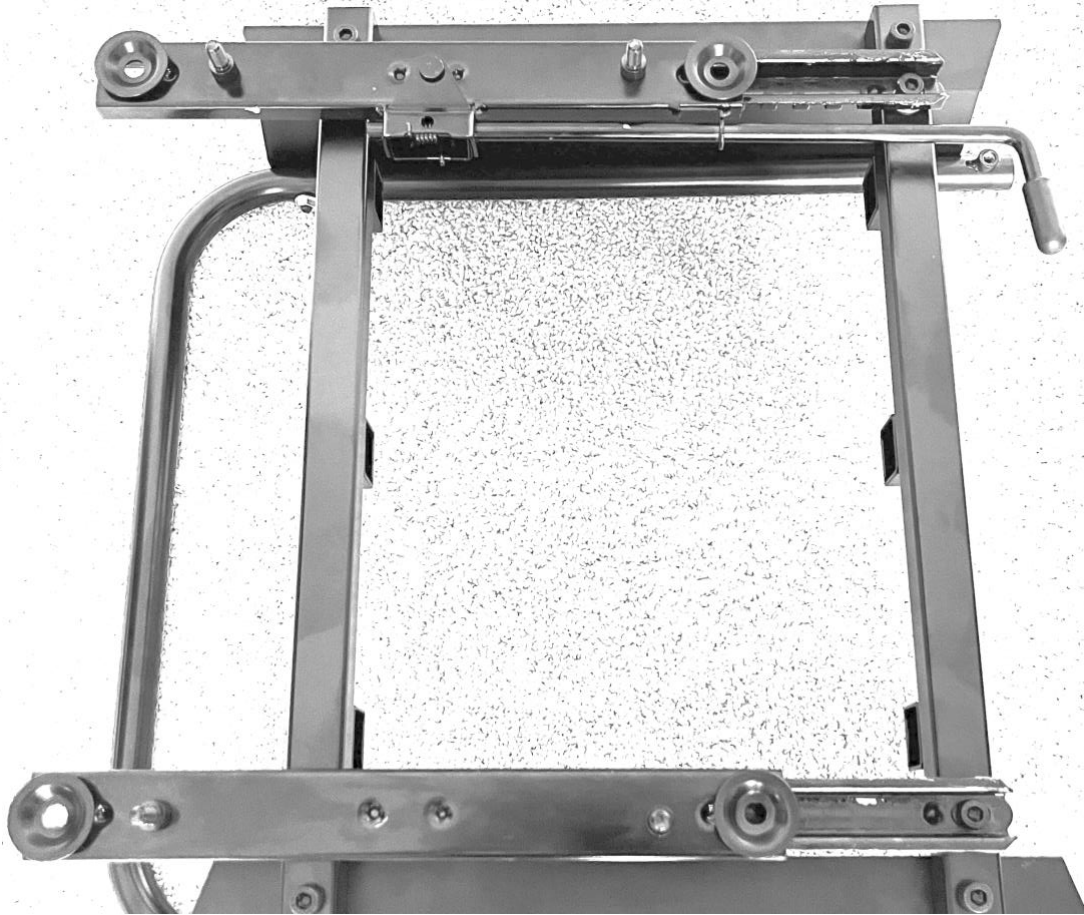
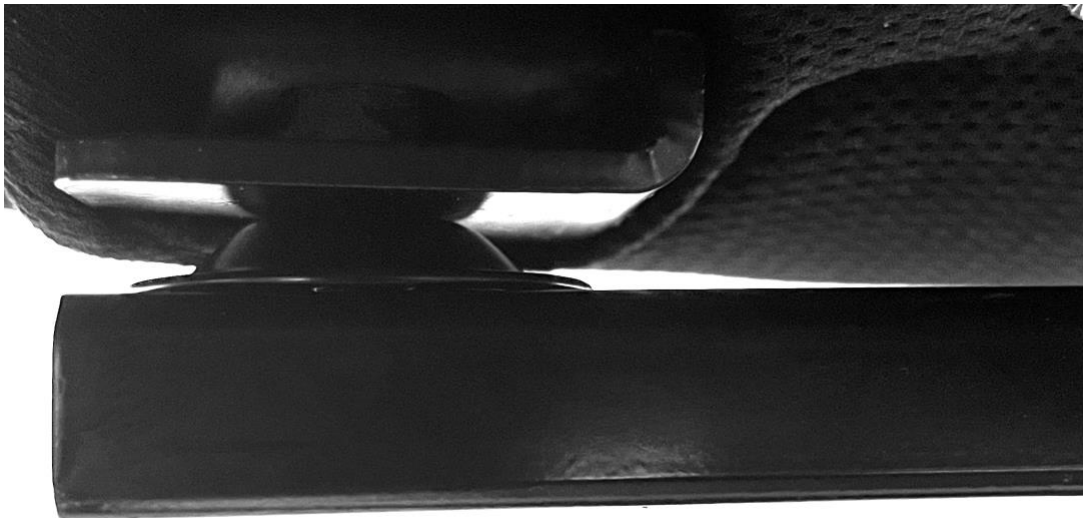

FIGURE 8B: ATTACHING THE SEAT TO SEAT SLIDERS
FIGURE 8C: SEAT SPACER (NO. 18) POSITIONING BETWEEN THE SEAT AND SEAT SLIDER
Next, attach the seat to the two sliders as shown in **FIGURE 8B** taking care that you place the four (4) dish-shaped Seat Spacers (No. 18) between the sliders and the seat as shown in **FIGURE 8C**.